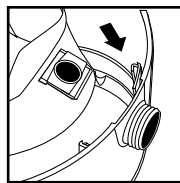

FIGURE 34
48. Slide deflector with filter bag attached into deflector guide. **FIGURE 34.**